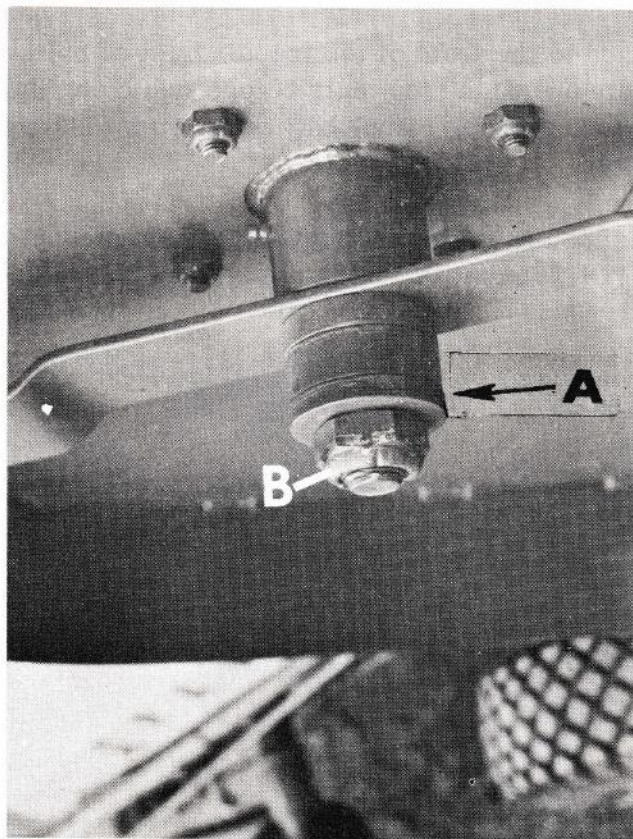

Figure 2
The cutting height of the mower is adjusted by the collars on the rotor shaft shown at A, Fig. 2. The closer the blades are to the bottom of the deck, the higher the cut, and vice versa. Vary the combination of the three collars as you so desire. The cutting height of the mower is from 1 1/2" to 3".
On some mowers, a square hole has been machined in the end of the shaft shown in figure 2. To remove or replace blade easily, insert standard 3/8" socket drive in square hole, and remove or tighten nut with wrench as required.
- (C) Use a large screw driver, etc., to hold the pulley as shown at A, Fig. 4, while loosening the nut on the bottom of the blade shaft as shown at B, Fig. 2. It is a conventional right handed thread nut.